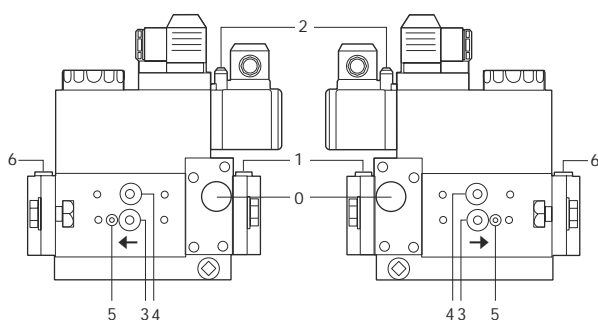
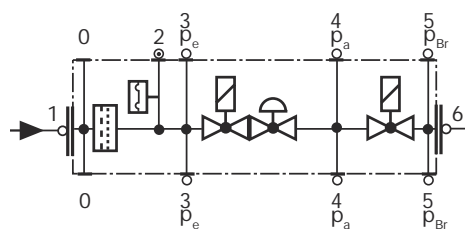

Fig. 22
Fig. 23
- Clean and examining the gas filter cartridge, if necessary replace it (Fig. 22 on).
- Change the filter if the pressure difference between pressure connection 1 and 3 (Fig. 22-Fig. 23) is $\Delta p > 10$ mbar.
- Change the filter if the pressure difference between pressure connection 1 and 3 (Fig. 22-Fig. 23) is twice as high compared to the last check.